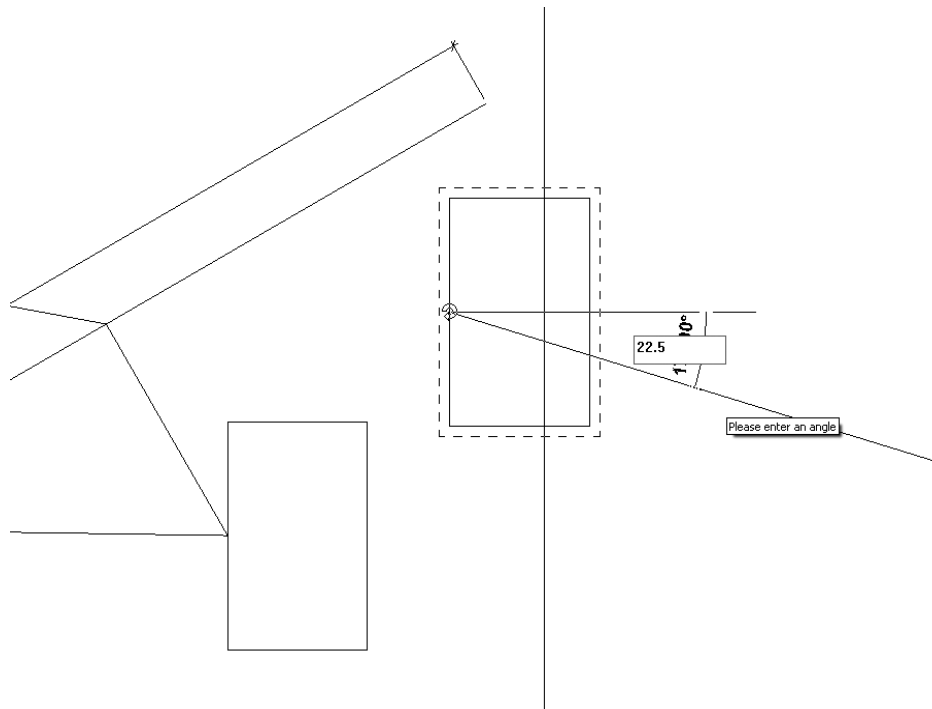

Figure 3-3.10 Rotate tool; typing in exact angle
21. Start moving your mouse downward and then type **22.5** and then press **Enter** (Figure 3-3.10).